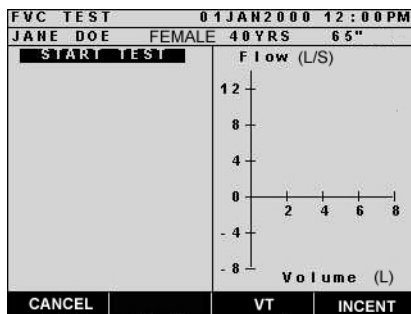

Figure 20: FVC Test
4. Enter the room temperature and barometric pressure, if necessary, and press the **DONE** soft key. The sensor will zero and the spirometer will display the "FVC TEST" screen and START TEST prompt (Figure 20).